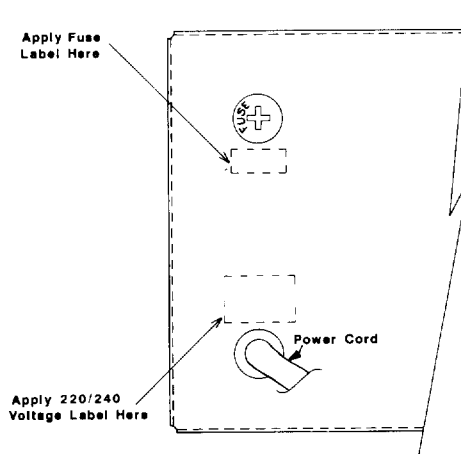

Figure 3. Application of International Voltage and Fuse Stickers
6. Affix the fuse label over the original silk-screened designation. Refer to Figure 3.